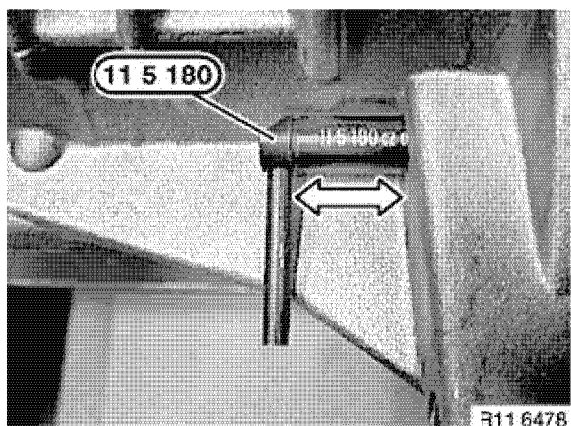

Figure 5-96
- Secure crankshaft in TDC position with flywheel holding tool (**Figure 5-96**).